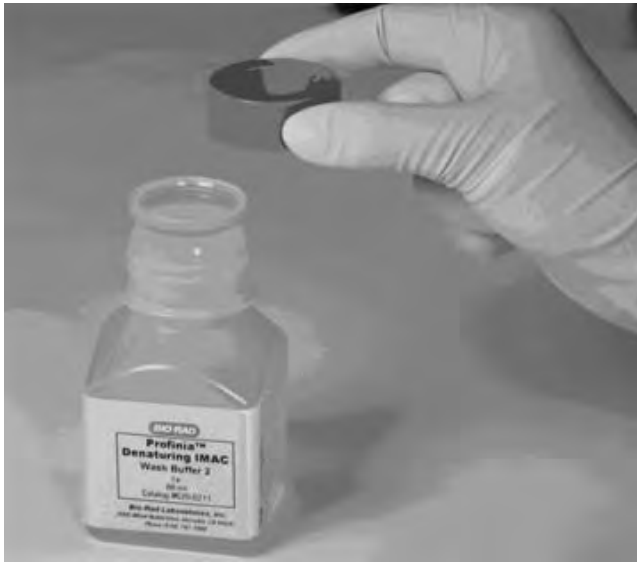

Fig. 6.12. Replace buffer caps with buffer lids before installation.
3. When reagents are ready for loading into the Profinia instrument, place a buffer lid on each buffer bottle (Figure 6.12).